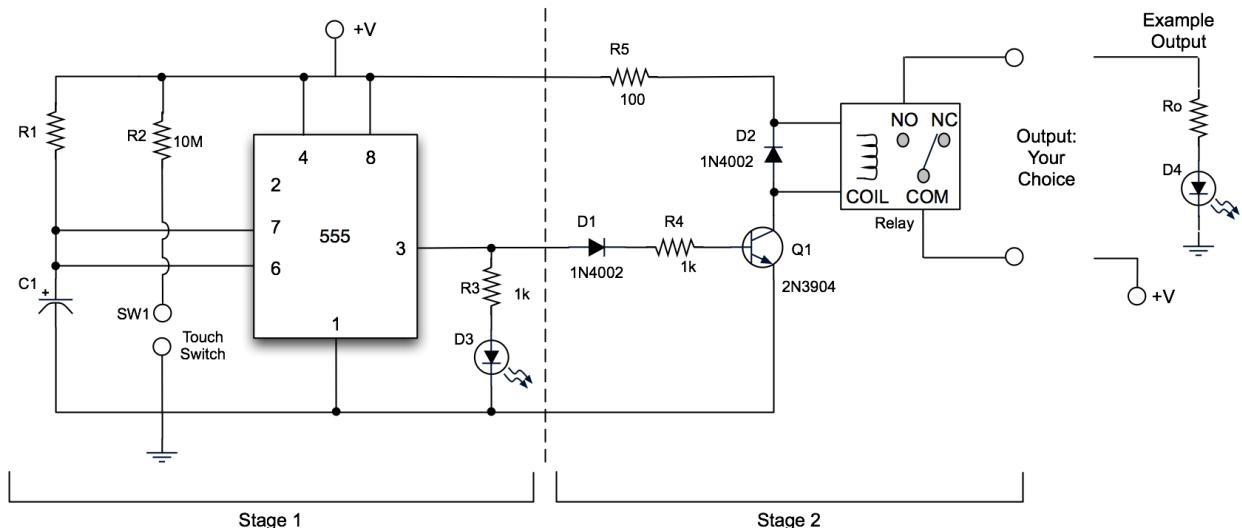

Figure 1: Touch switch circuit
The touch switch circuit is given in Figure 1 and is split into 2 stages. Stage one of the circuit produces the output pulse using the 555 timer to turn on the LED (D3). Once the desired output pulse width is defined, then stage two is added to complete the circuit. The input voltage for this circuit can vary widely. Enough voltage should be applied to drive the 555 timer and relay, however, too much voltage could destroy the 555 timer or the relay coil. The output components will also need to be considered when choosing the input voltage. One should consider this circuit as a marketable product for a toy, game, gag gift, holiday decoration, etc. when designing the output portion of the circuit. Important design questions should be answered:
Build stage 1 of the Project circuit (Figure 1) and simulate it for 10 seconds. Use the input voltage stated in Q2. To simulate the touch input to pin 2, use a monetary switch or push-button. Observe how long the LED is on for chosen values of R1 and C1. Compare the output pulse to the values given in the 555 timer datasheet. \*\*Stage 2 components that should not appear in stage one simulations are: D1, D2, R4, R5, Q1, Relay, Output components. Save the schematic. Use the oscilloscope function to generate waveforms for the input or pin 2 and output of pin 3. Save the waveforms. Make sure that each waveform is distinguishable when printed in black and white. Make separate graphs if you have to or use the excel export function to make dashed/dotted lines. (Put these images in Appendix 2)
Add stage 2 to the previous circuit simulation and simulate it for 10 seconds. Use the input voltage stated in Q2. Use the example output after the relay from the project circuit given in Figure 1. To simulate the touch input to pin 2, use a monetary switch or push-button. Use a EDR201A05 Relay in your circuit, which can be found in the relay category of component group basic. This is a SPST relay with a NO contact, and not a SPDT relay like we have in the lab, but when the circuit is built only the NO will be required. \*\*When simulating the full circuit, only tap the space bar once or an error will occur. Observe how long the LED is on for chosen values of R1 and C1. Compare the output pulse to the values given in the 555 timer datasheet. Save the schematic. Use the oscilloscope function to generate waveforms for the input pin 2, output of pin 3, and the collector side of the BJT. Save the waveforms. Make sure that each waveform is distinguishable when printed in black and white. Make separate graphs if you have to or use the excel export function to make dashed/dotted lines. (Put these images in Appendix 3)
This part of the project involves constructing the circuit and demonstrating that it works as demonstrated by the simulation. Build each stage of the circuit in Figure 1 and then add the designed output portion. Answer all questions listed below as a discussion in tech memo format. Create all specified appendices in tech memo format.
1. Construct stage 1 of Figure 1. Take oscilloscope measurements on this circuit just as you did in the simulation. Save a waveform that captures the input trigger and one that captures the output pulse. (Put these images in Appendix 1)
2. Add stage 2 of Figure 1 to the circuit of step 1, including the example output. \*\*Be sure to use the same LED as specified in Q7 of Part 1. Take oscilloscope measurements on this circuit just as you did in the simulation. Save a waveform that captures the input trigger, one that captures the output pulse and one that captures the collector side of the BJT. (Put these images in Appendix 2)